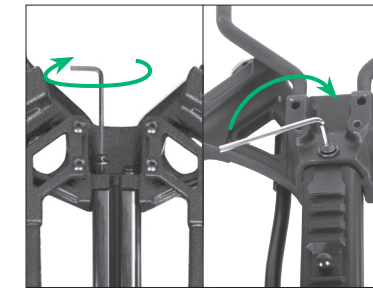

FIGURE 5
- 1c** Slide the riser (Fig. 2 No. 18) onto the barrel. Install and tighten the riser mounting screws (3) (Fig. 5), using the small 1/8 hex wrench.